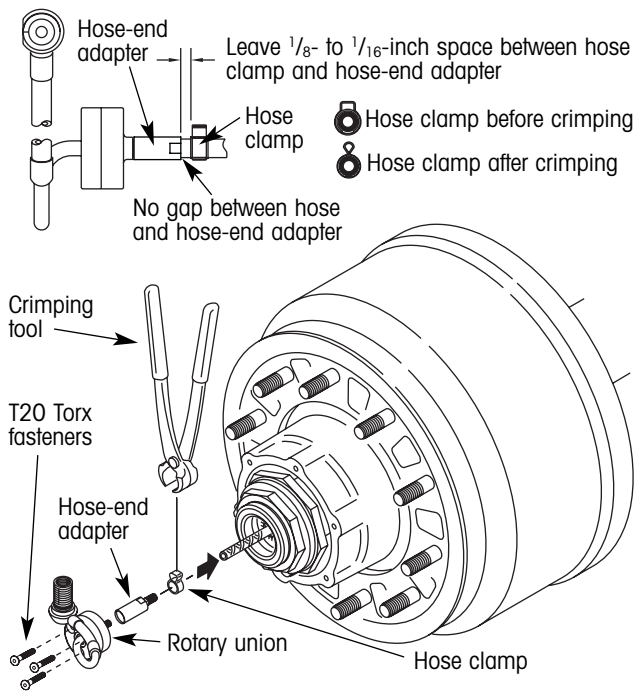

Figure 4. Rotary union installation
- a. Place the hose clamp from the replacement kit onto the braided hose sticking out of the spindle plug (figure 4).
- b. Slide the barbed end of the hose-end adapter completely (no gap) into the end of the braided hose assembly (figure 4).
4. Insert three T20 Torx fasteners from the replacement kit into the rotary union and fasten to the spindle plug (figure 4). Tighten the fasteners to  $45 \pm 5$  in. lbs. ( $5 \text{ N}\cdot\text{m} \pm \frac{1}{2} \text{ N}\cdot\text{m}$ ) of torque.